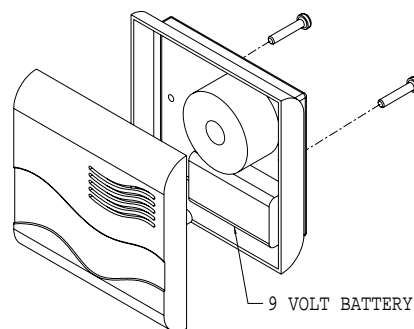

FIGURE 2
1. Slide alarm from holder and install a 9 volt battery in the alarm by removing two screws located in the back of the alarm. **Reference Figure 2.**